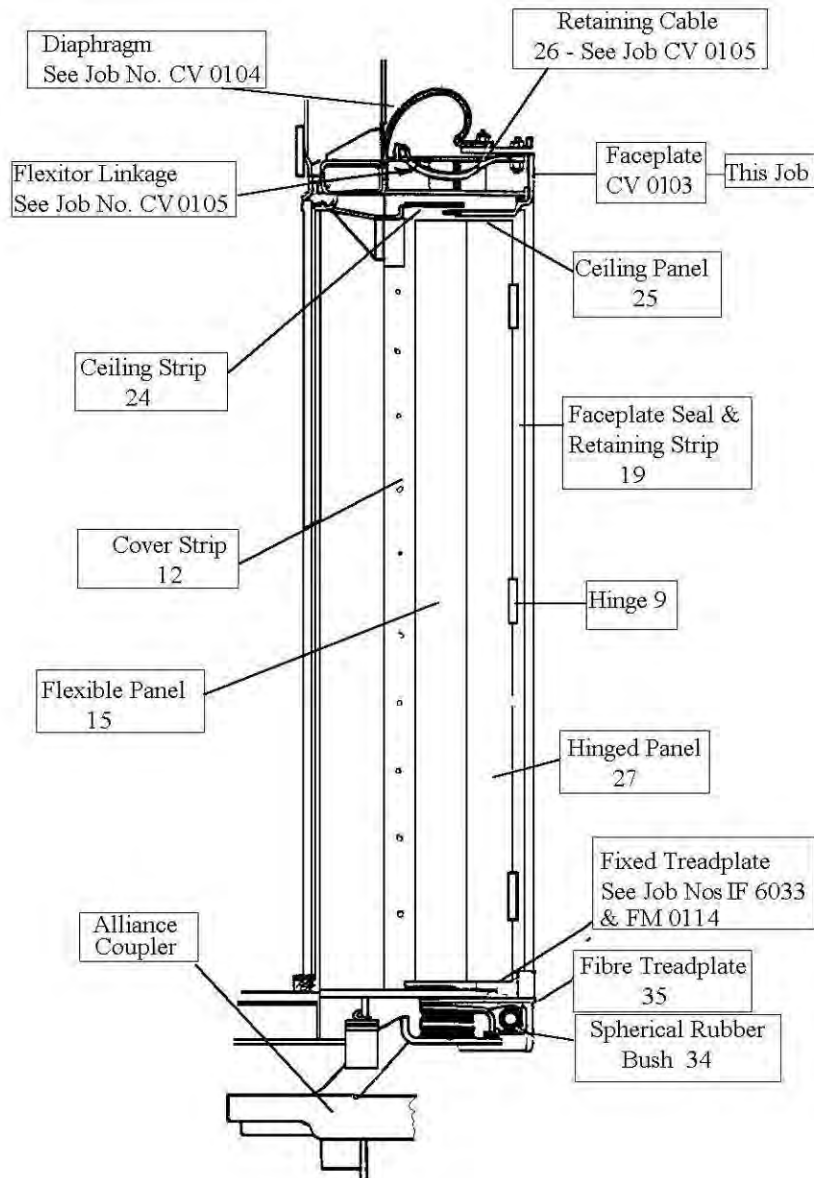

Figure 2: Side Elevation of Gangway
2. Examine for damage. Check particularly for fractures in the area around the transition from gangway treadplate into vertical side members. This area must be subjected to crack detection using Magnetic Particle Inspection technique described in the specified document (see Reference Documents item 2), using the specified document (see Reference Documents item 1) Section 6. The maximum permissible crack length is 20mm.
4. Examine fibre treadplate (item 35 on Figure 2) on faceplate.
5. Renew the spherical rubber bush (item 34 on Figure 2) (see Materials item 1).
6. Thoroughly clean the housing to remove all traces of dirt and fit a new spherical rubber bush (see Materials item 1).
7. Examine seals (item 19 on Figure 2).
8. Examine the canvas arch cover (item 1 on Reference Drawings item 1) for tears, cuts and abrasive wear, including around the fastening holes under the aluminium retention straps.
9. Examine the aluminium retention straps (item 4 on Reference Drawings item 1) for distortion, fractures, corrosion, wear/erosion and security.